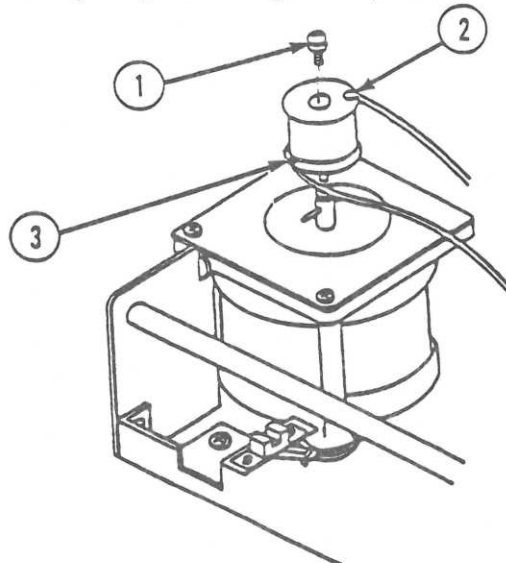

FIGURE 22
17. Remove the bottom end of the carrier wire from the motor pulley. (See Figure 22, #3.)